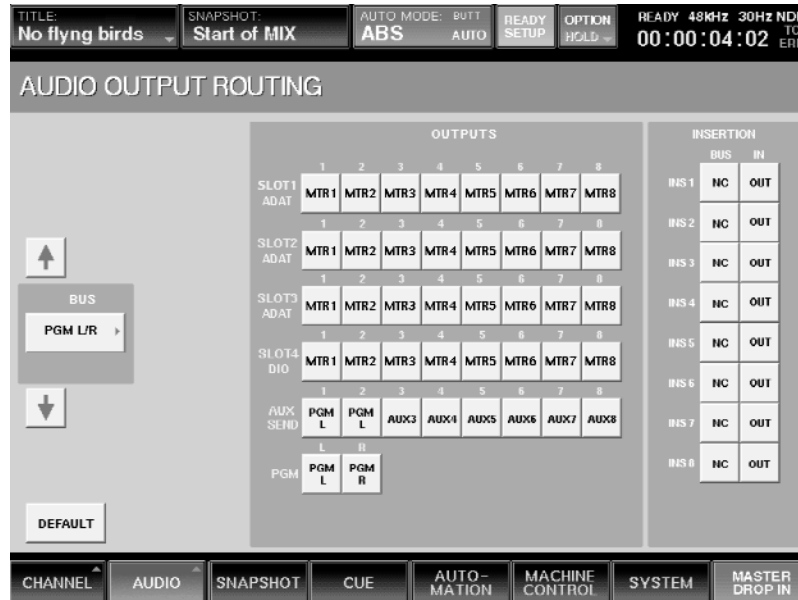

Figure 23
- 5 To route that bus to Aux Send 2 as well, simply press the Aux Send 2 button. The left PGM bus output will now appear at both the Aux 1 and Aux 2 send output connectors. (See Figure 23)